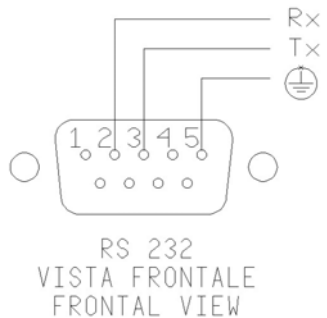

Fig.8
On the front of the calibrator there is a 9 pole socket (5) connected to the thermo-regulator, which enables the calibrator to be completely controlled by a PC (reference to fig.8). The standard adopted RS-232 (contact the technical department for the communication number).